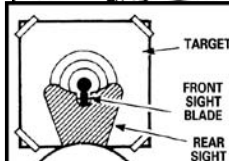

Fig. 10
- The airgun is correctly aimed when the front sight blade is positioned exactly in the center of the notch of the rear sight. The top of the front sight blade should be even with the top of the notch in the rear sight. The bulls-eye should appear to rest on the top of the front sight. (Fig. 10)